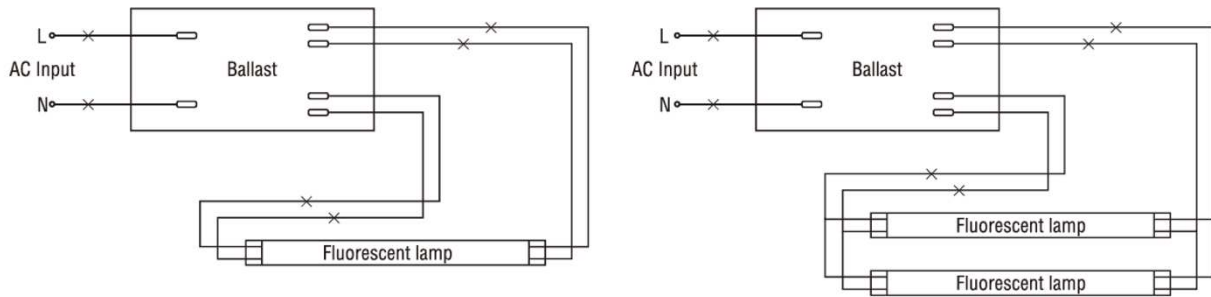

Figure 1
- STEP 4:** Cut all wires which are connected to the ballast and remove it per Figure 1